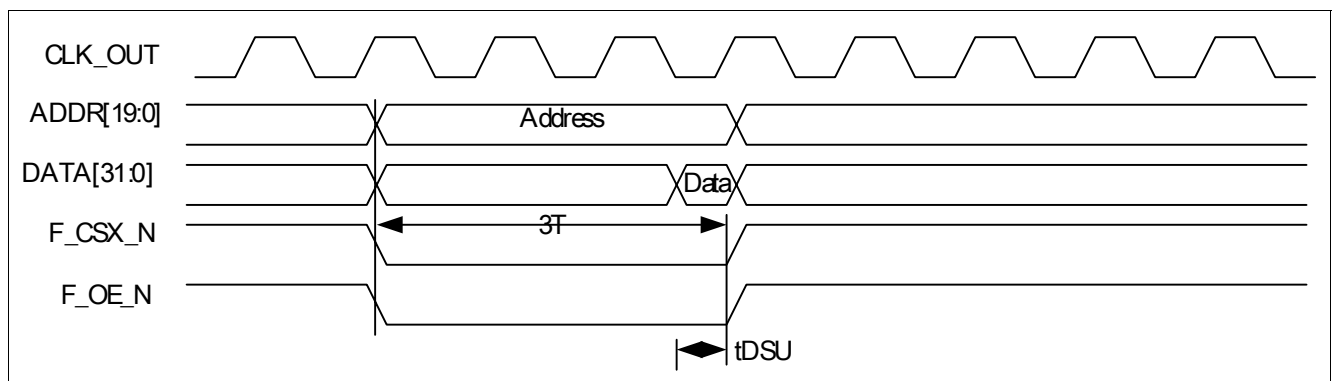

Figure 7 Read with Two Wait State
- The read access time is determined by the number of wait state programmed for the WAITRD field of the **MPMC Static Wait Rd 0** register. The WAITTURN field in the **MPMC Static Wait Turn 0** register determines the minimum number of bus turnaround wait states added between external read and write transfers. The **Figure 7** shows that the WAITRD is set to 2 in the **MPMC Static Wait Rd 0** register.